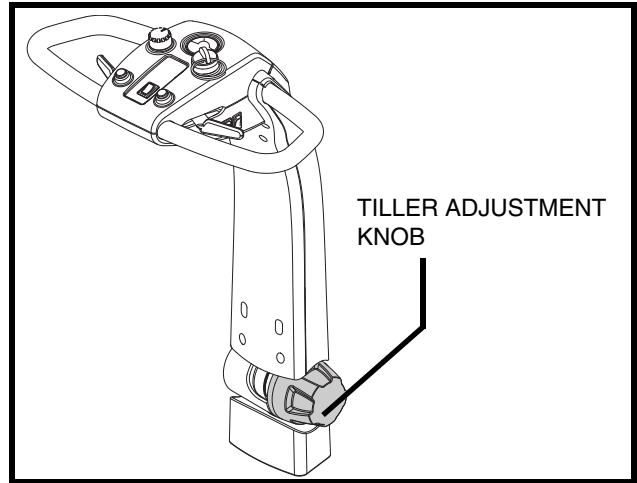

Figure 14. Tiller Adjustment
1. Loosen the adjustment dial (turn anticlockwise) and move the tiller console up or down to a comfortable riding position. See figure 14.